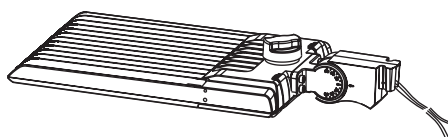

Figure 11
3. Reassemble the first two sections of the adjustable pole mount assembly by tightening the M10 × 35mm bolt in the center of the adjustment knuckle. Leave the third section of the assembly off as that will be installed on the pole separately. (Figure 11)